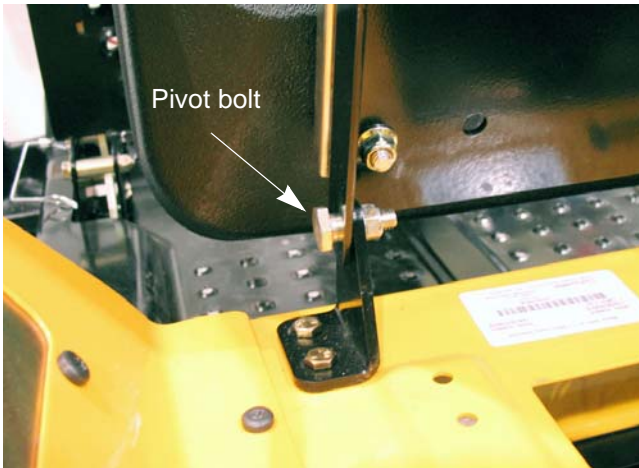

Figure 4.25
3. Remove the seat pivot bolts. See Figure 4.25.